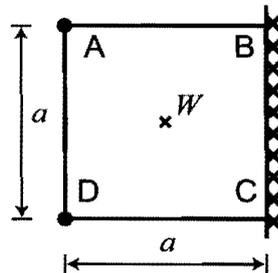

Figure 1
- Figure 1 shows, in plan view, a ductile plastic plate, with its corners, A and D , resting on simple supports, and edge, BC , fully clamped. The rest of the perimeter is free. The fully plastic moment per unit length is m for all yield lines.